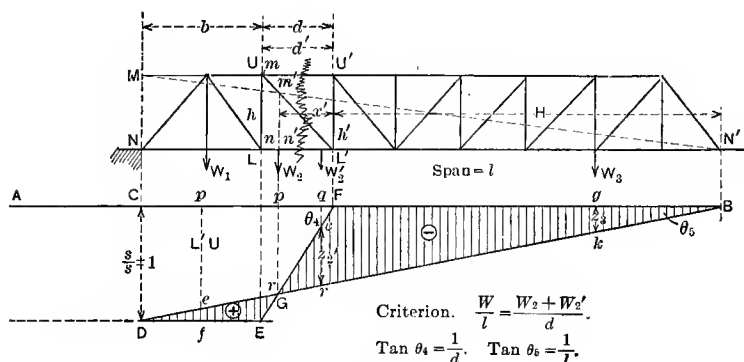

FIG. 4.
—The case shown in Fig. 4, presents an apparent exception to the general rule for drawing the influence line  $DEFB$ . The center of moments for any web member of a truss having parallel chords is at infinity. Taking  $N$ , the left
A negative ordinate in the influence diagram indicates that the resultant shear acts upward; therefore the vertical component of the stress in the web member, for which the influence diagram is drawn, acts downward. In Fig. 4, the member  $U'L'$  is in compression for loads on the left of  $G$ . The vertical  $UL$  has the same influence diagram but it is in tension for the same loads.
The criterion for maximum shear is determined in the manner given above for maximum moment. Without writing all of the equations and referring to equation (13) and Fig. 4,